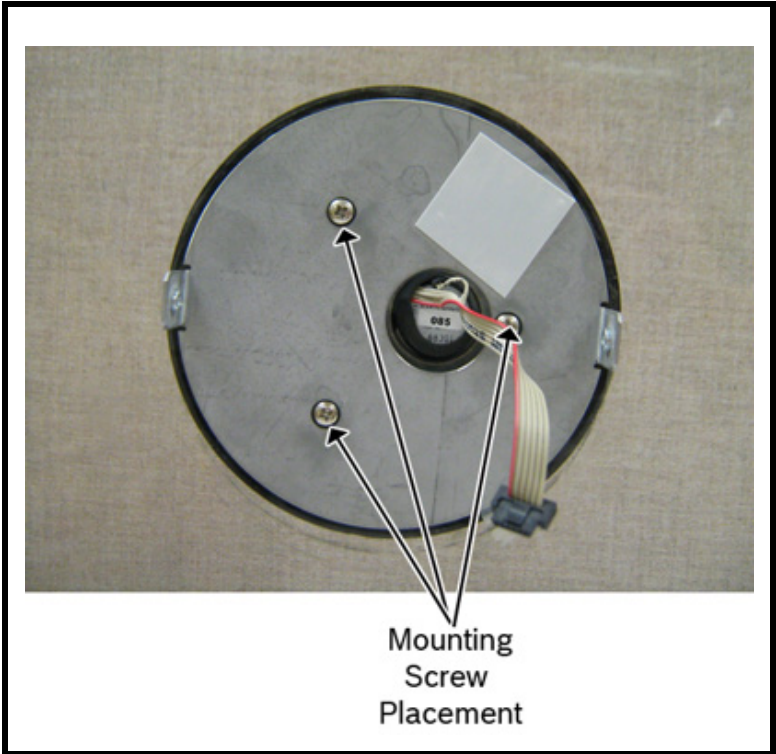

FIGURE 5. Customer Side Mounted
6. Attach the **mounting plate** removed from the operator assembly (See Step 1) using the three (3) supplied mounting screws and rubber washers. (See Figure 5).